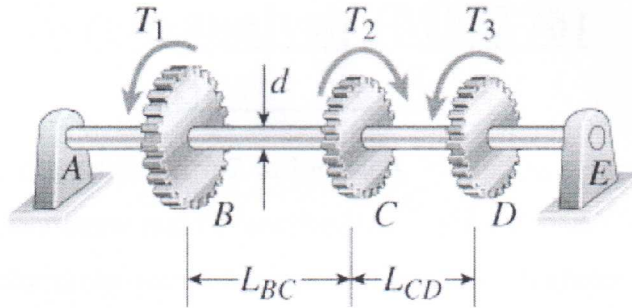

Figure 1.
- (7) For the shaft/gear assembly shown in Figure 1, the shaft is driven by Gear at *C*. Gears at *B* and *D* are driven by the shaft. It turns freely at *A* and *E*. $T_2 = 450$ N.m, $T_1 = 275$ N.m, $T_3 = 175$ N.m, $d = 30$ mm, $L_{BC} = 500$ mm, $L_{CD} = 400$ mm, and $G = 80$ GPa. Determine the maximum shear stress and the angle of twist between gears *B* and *D*.